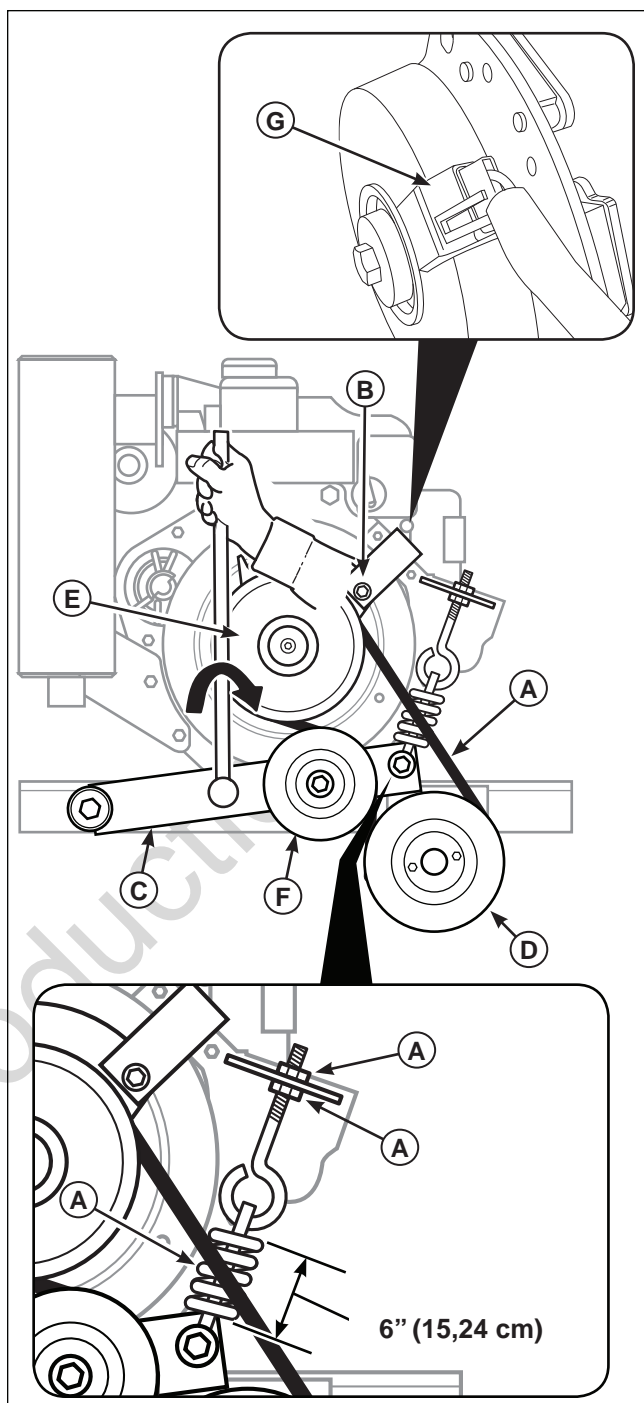

Figure 58. PTO Clutch Belt Replacement
2. Open the hood to gain access to the PTO clutch belts (A, Figure 58) which is located on the rear of the engine.
3. Remove the PTO clutch anchor bolt (B).
4. Disconnect the PTO clutch wire harness (G).
5. Using a 1/2" breaker bar, place the square end in the square hole located in the end of the idler arm (C). Carefully rotate the breaker bar **CLOCKWISE**, which will relieve tension on the breaker bar.
6. Slide the PTO clutch belts over the edge of the gearbox pulley (D). Carefully release the tension on the breaker bar.
8. Install the new PTO clutch belts on the PTO clutch (E) and the idler pulley (F). Carefully rotate the breaker bar **CLOCKWISE** and install the pulley on the gearbox pulley (D). Carefully release the tension on the breaker bar.
9. Reinstall the PTO clutch bolt (B).
10. Reconnect the PTO clutch wire harness (G).
1. Measure the idler arm spring (A, Figure 58) as shown in Figure 58. The spring should measure 6" (15,24 cm).
2. If the measurement does not equal 6" (15,24 cm) loosen the jam nut (B) and turn the spring adjustment nut (C).